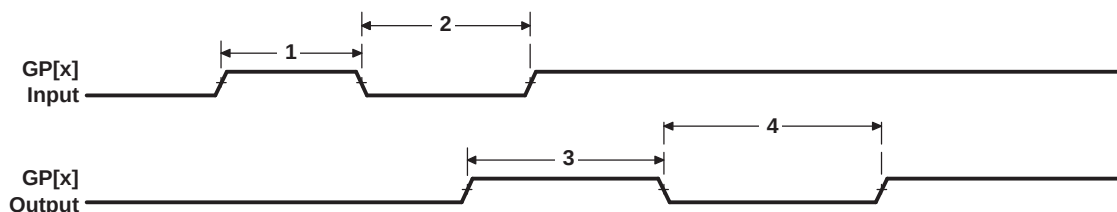

**Figure 7-95. GPIO Port Timing**
**Table 7-146. Timing Requirements for GPIO Inputs(1) (see Figure 7-95)**
- (1) The pulse width given is sufficient to generate a CPU interrupt or an EDMA event. However, if a user wants to have DM6467 recognize the GP[x] input changes through software polling of the GPIO register, the GP[x] input duration must be extended to allow DM6467 enough time to access the GPIO register through the internal bus.
- (2)  $C = \text{SYSCLK3 period in ns}$ . For example, when running parts at 594 MHz, use  $C = 6.7 \text{ ns}$ .
**Table 7-147. Switching Characteristics Over Recommended Operating Conditions for GPIO Outputs (see Figure 7-95)**